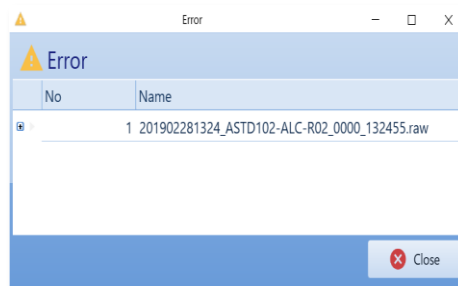

Figure 6.26 "Error" window
(6) Displays "Error" window if any error occurs while in data transfer. Please confirm error information. (Figure 6.26)